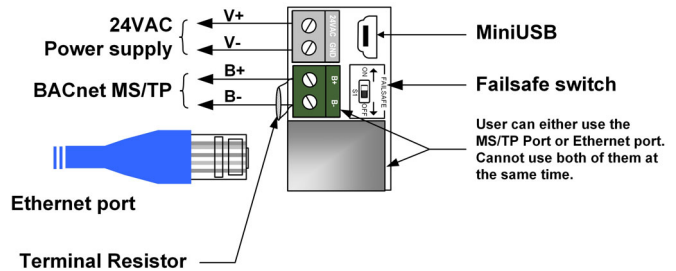

Fig. 2 NVT70PE Wiring
- Setup, upload firmware, and upload graphic display by using the BACsoft software and connect PC to NVT70PE with USB2.0 to Mini USB cable (see Fig. 2).